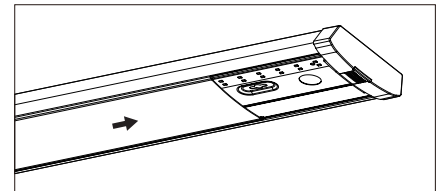

Figure 11
- k. To install diffuser (B), start at one end of the lamp base, and insert the diffuser slot onto the edge of the lamp base. Carefully squeeze diffuser to engage opposite side with the lamp base. Continue this action down the length of the diffuser until fully installed onto the lamp base. (Figure 11).